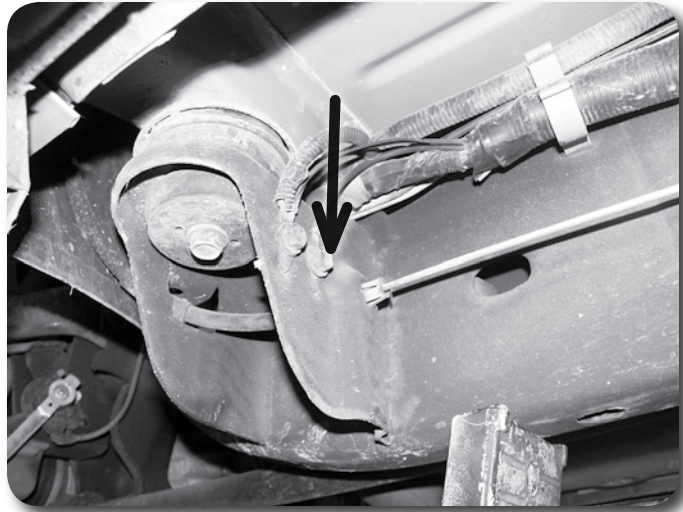

Figure 13
17. Disconnect the front section of the cable from the rear section at the connector just below the driver's side door. There is a small indent in the connector that must be removed to allow the cable to be pulled free Figure 13. Remove the indent with a punch, small rotary grinder or drill.